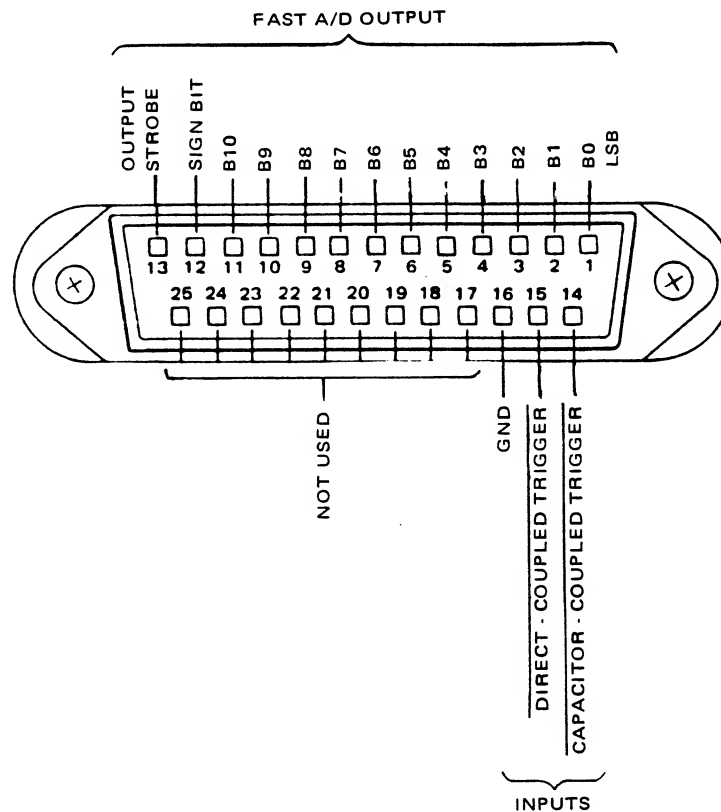

Figure 2.2 - Fast A/D Output Connector - Option 03 (Rear Panel)
2.5.2.1 When Option 03 or 03SH is installed the instrument is equipped with a rear panel connector for system connection of the fast analog-to-digital output. The pin-signal assignments for these connectors are illustrated in Figures 2.2 and 2.3. The instrument is supplied with the mating connector.